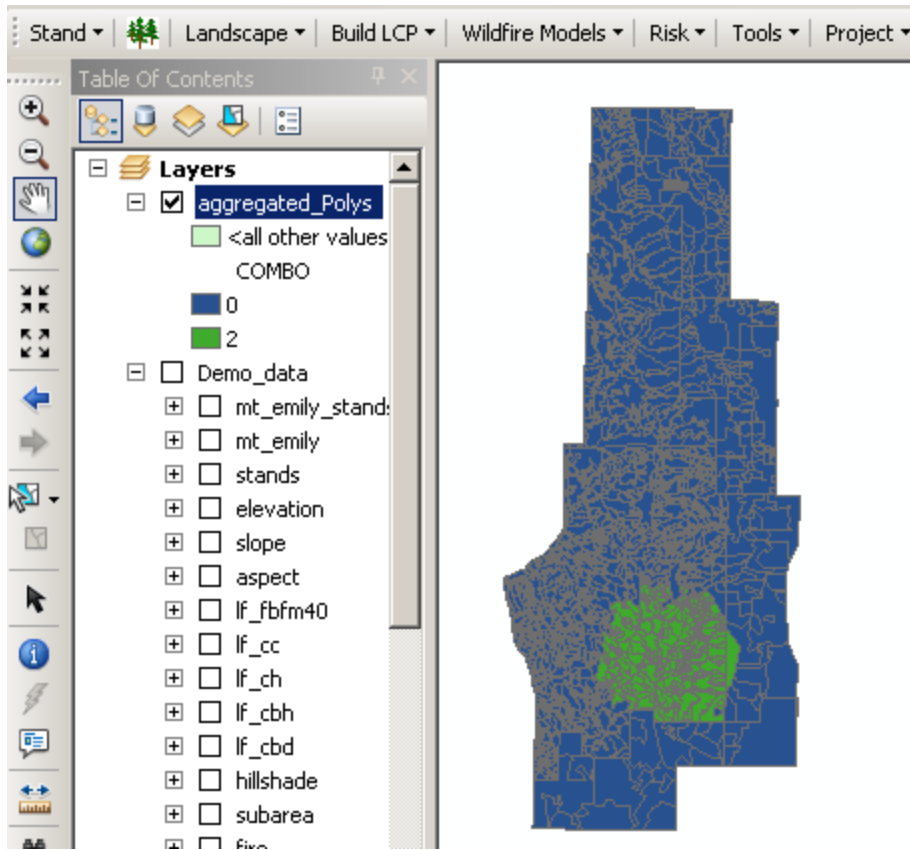

Figure 5-17—The spatial solution for the aggregated run.
- e) Click **OK** to apply the changes (fig. 5-17).
Notice the differences between the two solutions in figures 5-17 and 5-20. The general treatment area is the same because that is where the concentration of large trees is. The aggregated solution creates one large contiguous treatment patch where the solution suggests treatments for 4,138 ac and contains 75,174 large trees. The large trees contained in the aggregated solution include all trees in the patch regardless of treatment preference. On the other hand, the dispersed solution suggests treatments for 4,200 ac and contains 129,178 large trees because it is able to disperse the treatments to include all the stands with the highest density of large trees.